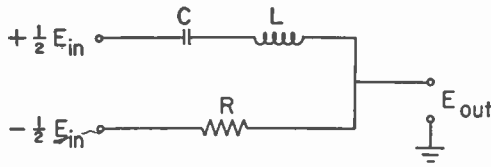
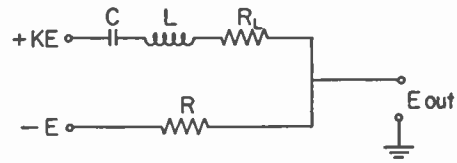

Fig. 5—Simplest all-pass circuit corresponding to one “quadruplet” of Fig. 4.
Fig. 6—Method of compensating circuit of Fig. 5 for effect of coil dissipation.
Fig. 5 shows what seems to be the simplest circuit which can produce a quadruplet as required. The quadruplet is
The circuit of Fig. 5 is particularly easy to compensate for the unavoidable effect of the dissipation of a real coil. When the resistance of the coil is taken into account the circuit appears as in Fig. 6. If the two input voltages are kE and $-E$ instead of $(1/2)E$ and $-(1/2)E$, the transfer function of the network has the same quadruplet of (3) with $R_T = R_L + R$ in the place of R . The magnitude of the output voltage is E . The ratio k between the two voltages k is given by:
The semilattices of Figs. 5 and 6 do not offer a constant impedance between the input terminals. In order for the input voltage not to be affected by the changes in this impedance, the network’s minimum resistance (which is $R_L + R$) must be large compared to the internal resistance of the source of voltage. This means that R_L and R_k must be small compared to $R_T = R + R_L$. But there is a limit to the minimum value of the resistances R_p and R_k into which a tube can work, and there is therefore a limit to the minimum value which R_T may have. Since the Q of the circuit cannot be made too small, the L of the coil cannot be made too small either. High Q , high L coils are required.
Two main sources of error appear when the circuit of Fig. 6 is realized in practice. One is the change with frequency of the resistance of the coil; the other is the effect of the distributed capacitance of the coil.